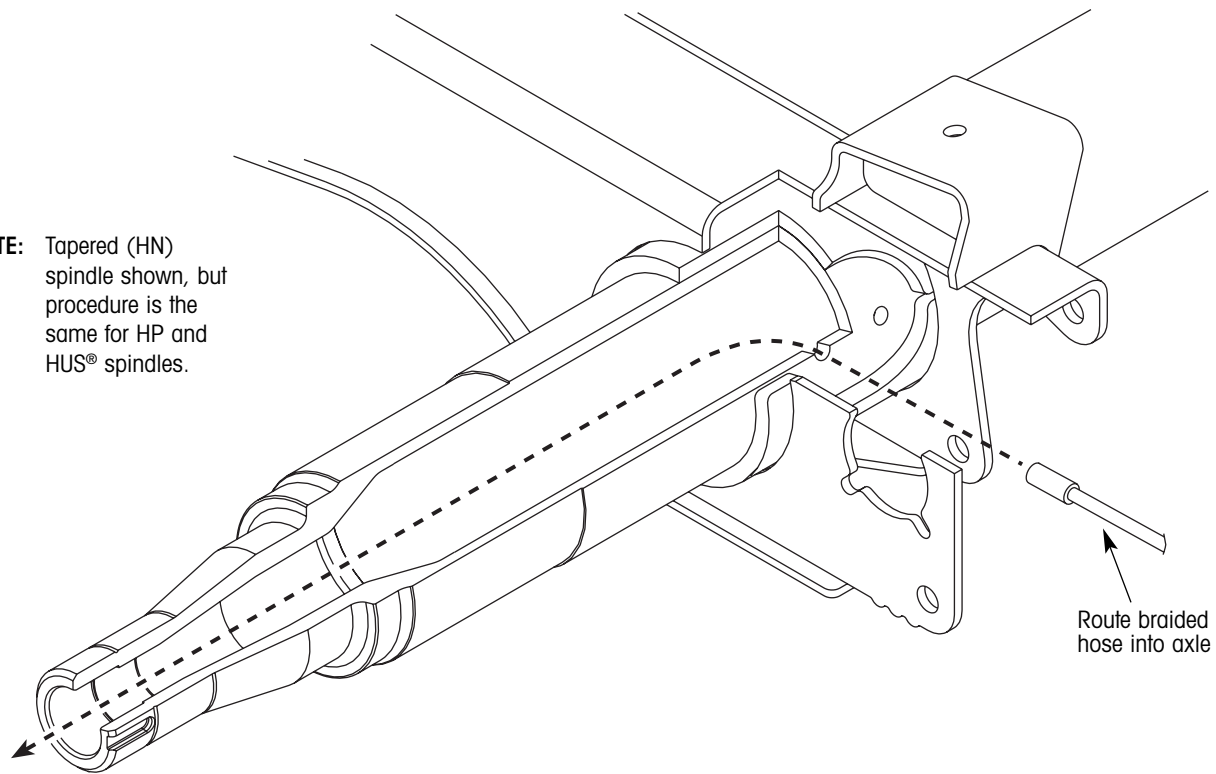

Figure 7. Routing hose in axle
1. On the end of the axle tube with two ¼-inch holes in the wrap window (on INTRAAX and VANTRAAX suspensions), route the small end of the metal braided hose into the hole closest to the spindle end (figure 7). On Hendrickson Trailer Axles, route the small end of the metal braided hose into the hole closest to the spindle.